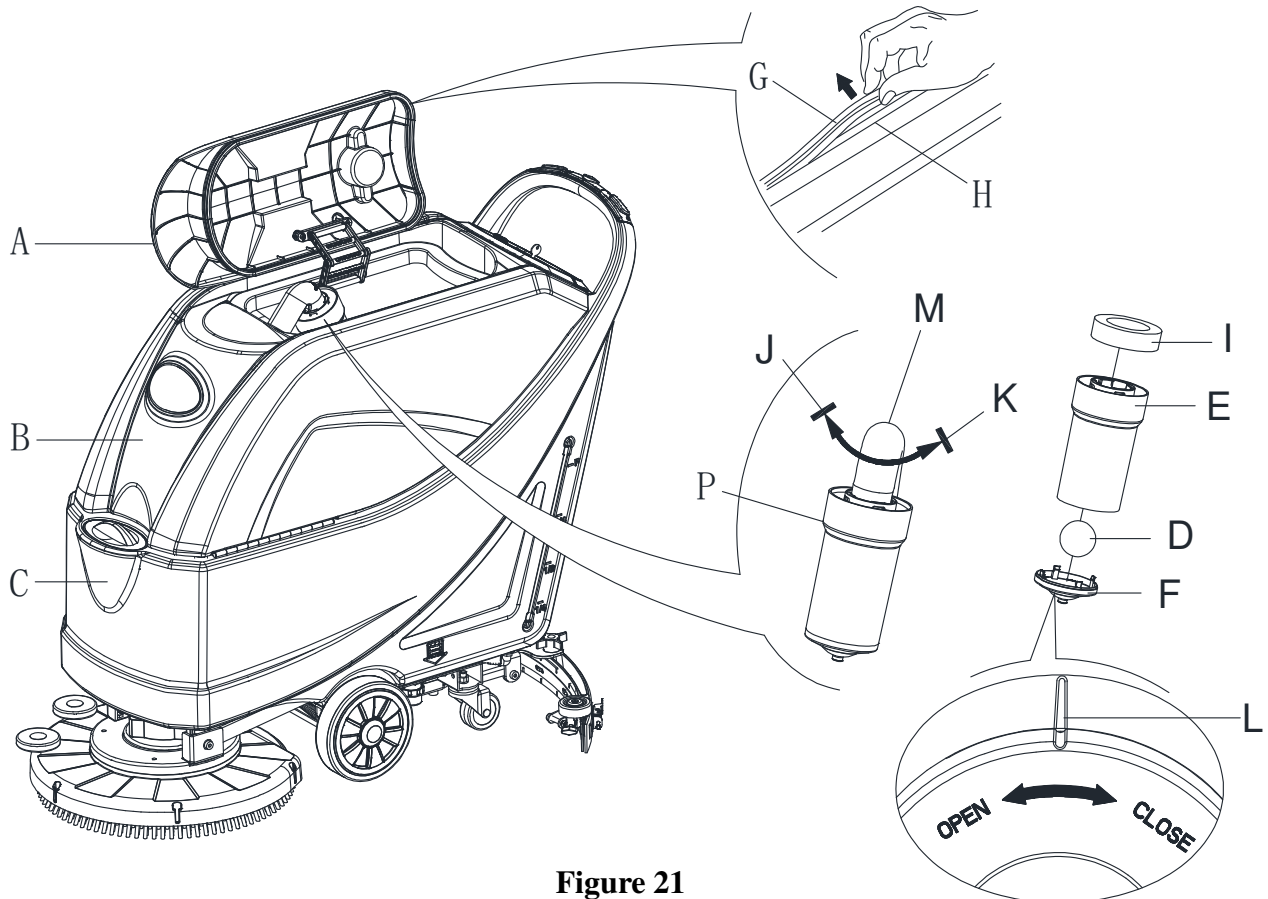

Figure 21
2. Ensure that the machine is off and the ignition key (54) has been removed.
3. Turn the recovery tank lid (A, Figure21) 90 degree position where it can be taken off from the tank, and then take down the float ball filter (P) from the tank.
5. If necessary, follow the symbols "OPEN" and "CLOSE" as shown in (Figure21) to open the bottom cover (F) of float ball filter and then clean the float ball (D), filter support frame (E) and filter sponge (I). After cleaning, fix the float ball (D) into the filter support frame (E) and then align the mark groove (L) of the bottom cap (F) of the float ball filter with the mark groove (L) of the float filter support frame (E). Screw the bottom cap of the float ball filter tight, and fix the filter sponge (I) onto the float filter support frame (E). Finally, connect it to the sewage suction hose (M).
7. Check whether the contact surface of sealing strip (G) is integrity and sealing is sufficient. If necessary, take the sealing strip of the tank out of the groove (H) and replace it. Assembly the new sealing strip as shown in (Figure21), the joint should be back in the middle area.
8. Close the recovery tank lid (A).